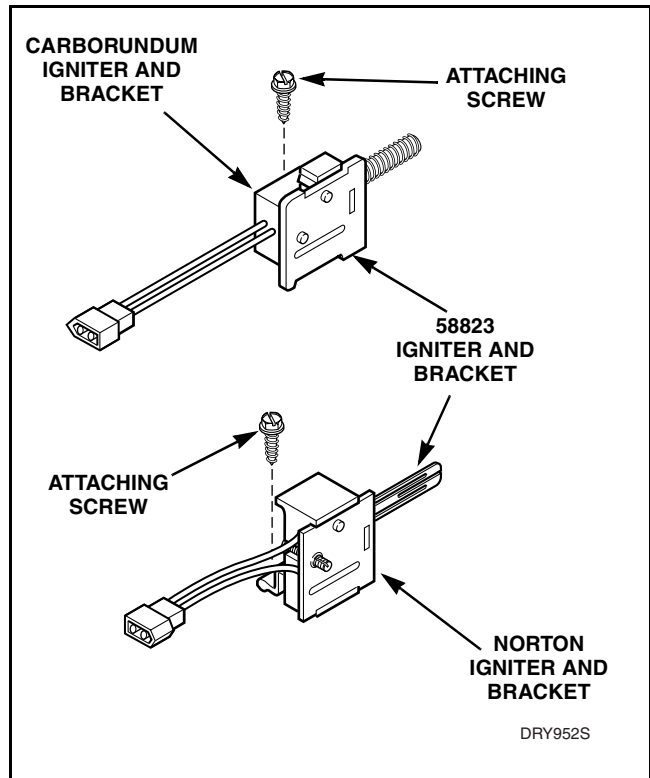

Figure 18
c. **Igniter.** Refer to *Figure 18*
- (1) Remove burner tube and igniter, step “b”.
- (2) If 55438 igniter, remove by carefully spreading mounting clip with snap ring pliers. Refer to *Figure 18*.
- (3) If 58823 igniter, remove Phillips head screw holding igniter and ceramic block to burner tube. Refer to *Figure 18*.